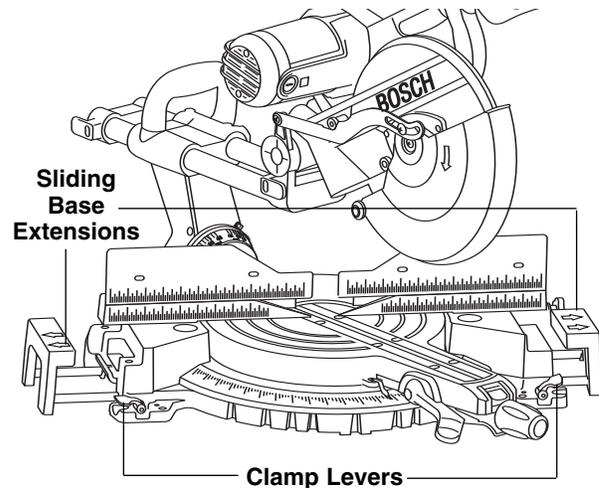

Figure 2. Sliding Base Extensions
**Sliding Base Extensions** – These extensions provide extra workpiece support and are especially useful when cutting long workpieces. To reposition the extensions, simply unlock the Base Extension Clamping Levers, reposition the extensions, and re-lock the levers (Figure 2). (See also Length Stop on page 30.)